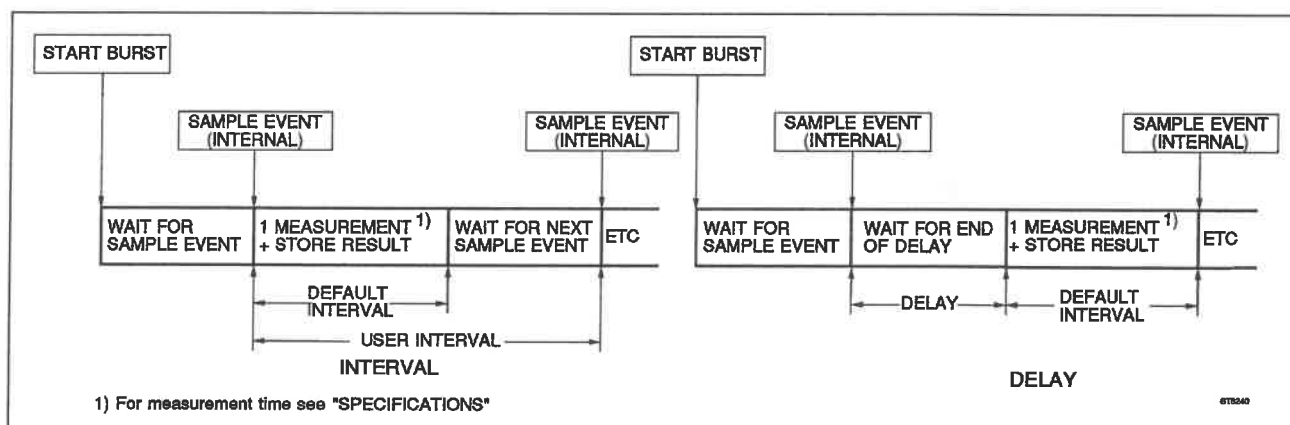

Fig. 4.44 Sample timing at sample input "INTERNAL".
- 1. INTERVAL to set the time between successive individual measurements if INTERNAL SAMPLING (see 3. SAMPLE INP) is selected. See Fig. 4.44.
- 1. INTERNAL a new sample is taken when the defined sampling interval time elapsed (Fig. 4.44). When sampling interval DEFAULT is operative, the sampling delay can be made operative. At sampling interval USER VAL the delay is always discarded.